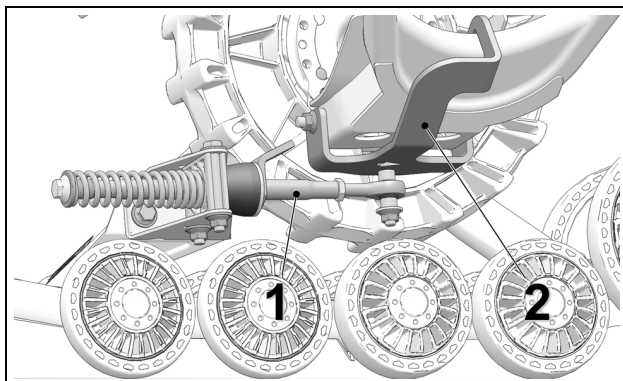

Figure 8
- Stabilizing arm (1) must be attached to rear anchor bracket (2) installed on vehicle. Figure 8.